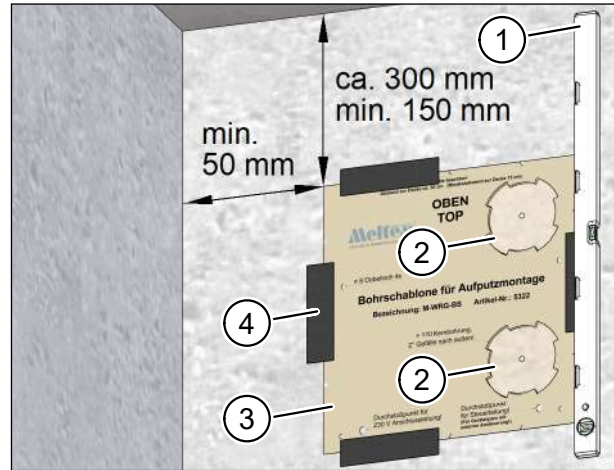

Fig. 16: Marking positions of the core drill holes
- ▶ Press the pre-punched cut-outs (item 2 in Fig. 16) for the core drill holes out of the drilling template.
- ▶ Position the drilling template (item 3 in Fig. 16) at the installation location on the internal wall.
- ▶ Use the spirit level to align the drilling template (item 1 in Fig. 16).
- ▶ Fix the drilling template in place with adhesive tape (item 4 in Fig. 16).